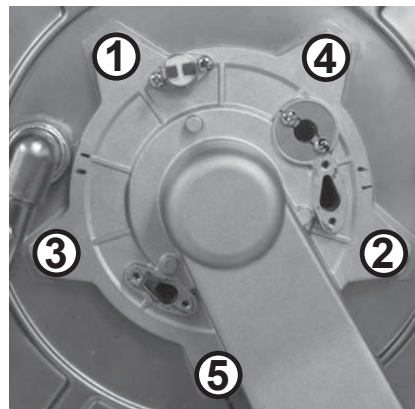

Figure 118 - Remove burner door hex nuts
- 16** Locate the five (5) hex nuts securing the burner door assembly to the heat exchanger as shown in Figure 118. Use a 10 mm hex socket to remove hex nuts. Place hex nuts aside in a safe location for reinstallation.
**NOTICE:** Star pattern in Figure 118 above **MUST** be followed during reinstallation of screws to burner door assembly.
- 29** Install burner door assembly over bolts in heat exchanger. Locate the five (5) hex nuts previously removed in **Step 16**. Hand tighten the hex nuts, then use a 10 mm hex socket to tighten each nut in a star pattern as indicated by the numbers (1-5) adjacent to the bolt holes. Torque hex nuts to 7.4 ft-lbs. (10 Nm). See Figure 118 as reference.